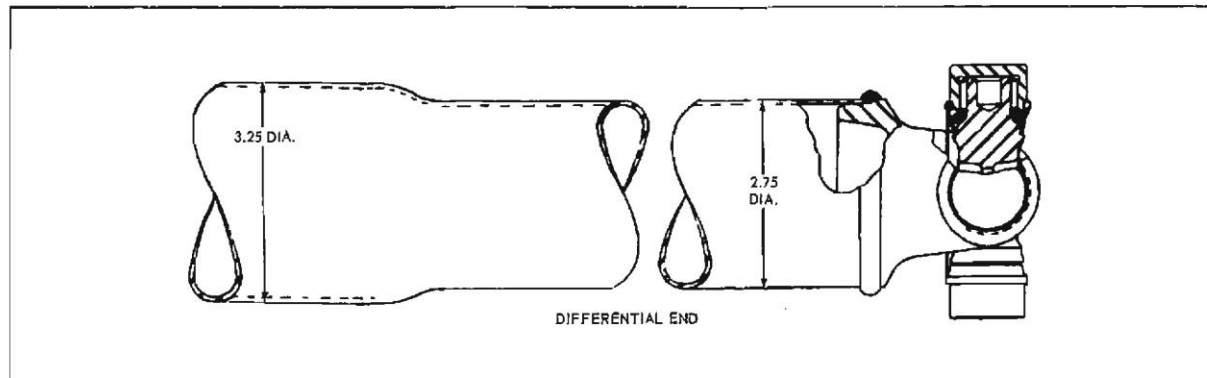

Fig. 4A-1 Propeller Shaft
2. Use a suitable rubber band to hold bearing onto journals if tie wire has been removed to prevent loss of needle bearings when rear joint is disconnected (Fig. 4A-3).